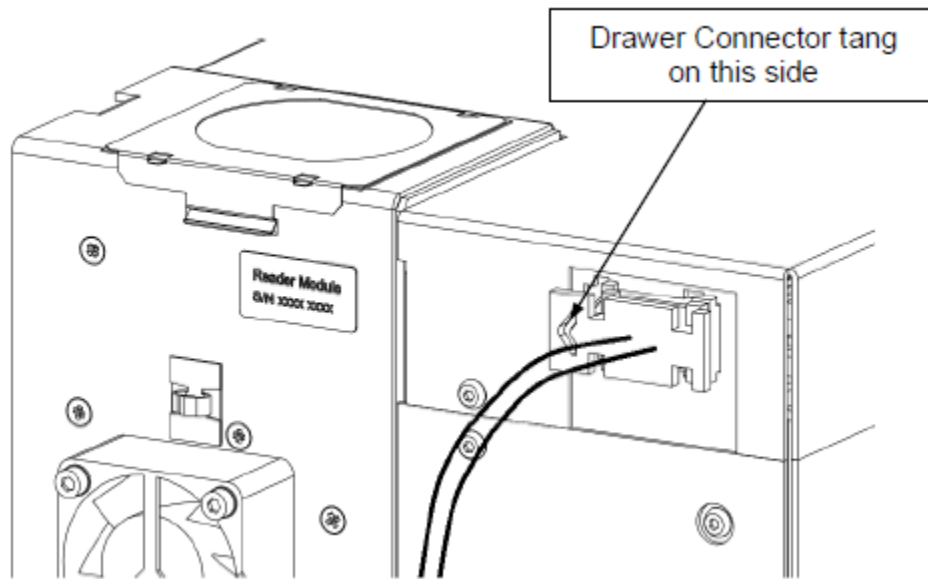

Figure 5-6: Connecting the Test E-Box
5. Connect the Reader assembly to the Test E-Box Backplane using a Reader Harness (15500340). The harness drawer connector plugs into the rear of the Reader Assembly as shown. The two backplane connectors' plug into the sockets marked "Reader" and "Reader Pwr 3 (Figure 5-6).